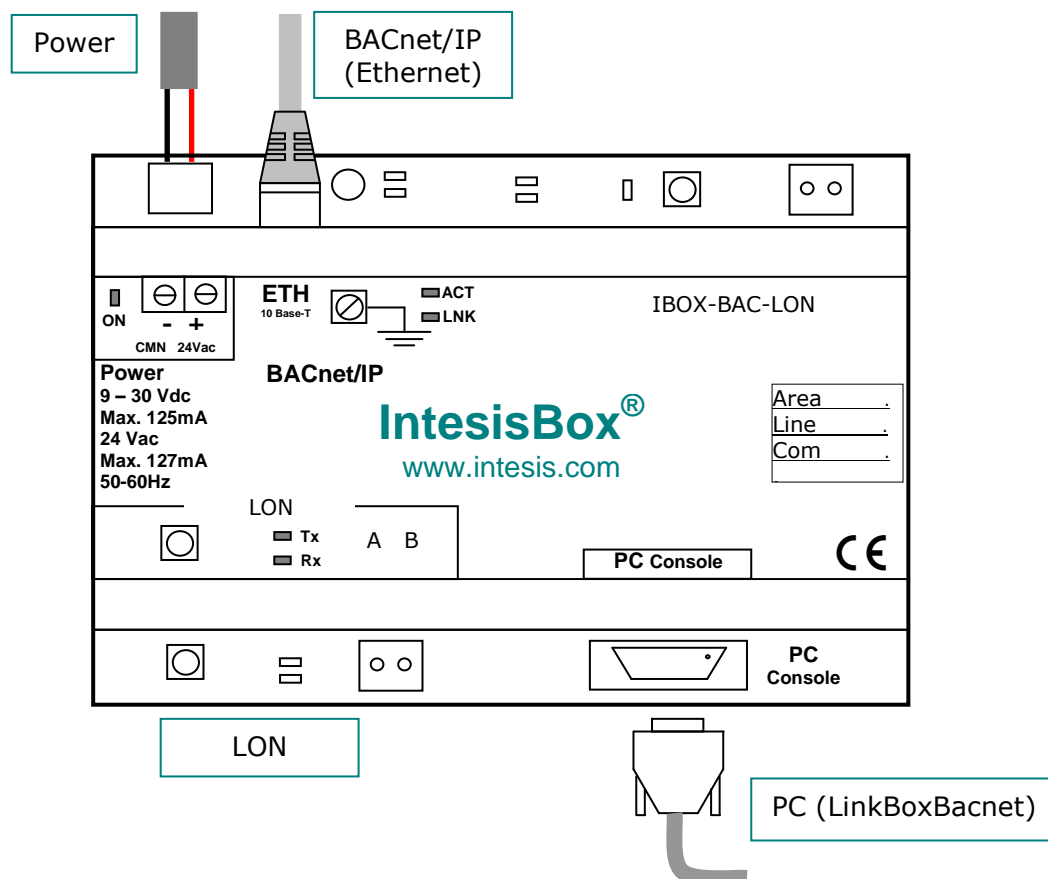

Figure 4.1 Device connection diagram
The first step to perform is to power up the device. To do so a power supply working with any of the voltage range allowed is needed (check section 6). Once connected the ON led (Figure 4.1) will turn on.
Connect the communication cable coming from the LON network to the port marked as LON of IntesisBox (Figure 4.1).
Connect the communication cable coming from the network hub or switch to the ETH port (Figure 4.1) of IntesisBox. The cable to be used depends on where the IntesisBox is being connected:
- Ethernet: Using the ETH port (Figure 4.1) of IntesisBox. How to check connectivity is explained in section 4.3.
- Serial cable: To connect the device to the PC the serial cable supplied should be plugged to the PC console port (Figure 4.1). The cable is a RS-232 straight cable and its pinout is at explained in Table 4.1.